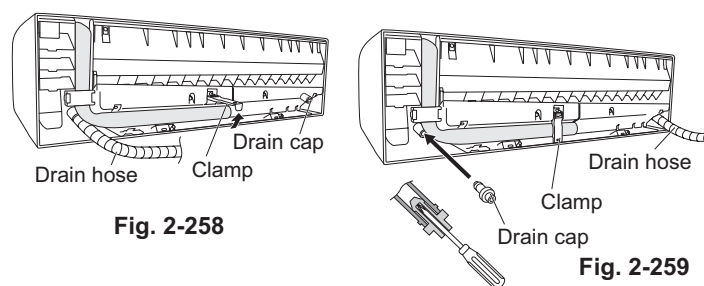

Fig. 2-258
- (a) Locate the drain hose and the drain cap. (Fig. 2-258)
- (b) Remove the screw fastening the drain hose on the right side, and pull out the drain hose to remove it. (Fig. 2-258)